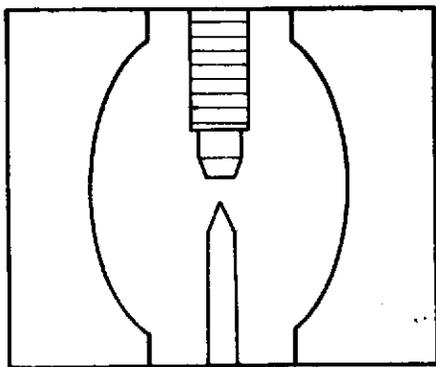

Fig.26
- 3) Turn the operation switch to FORWARD. Observing the lamp from the projection lens holder, adjust with (1)(2) so that a space between poles is located at a center of aperture mask as shown in Fig. 26.